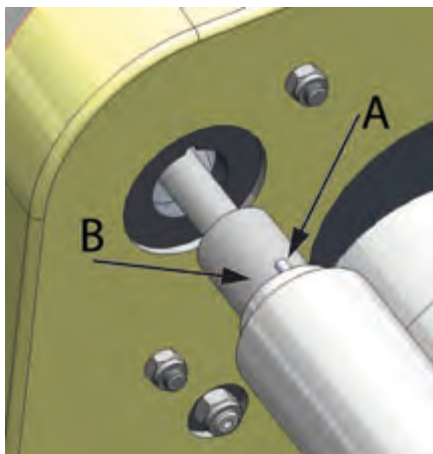

Figure 28. Hydraulic cylinder key
2. Make sure that the key is in place (figure 28, point A).
3. Spread sealing compound (such as Sikaflex 221) into point B, as indicated in figure 28 so that it seals the bushing.